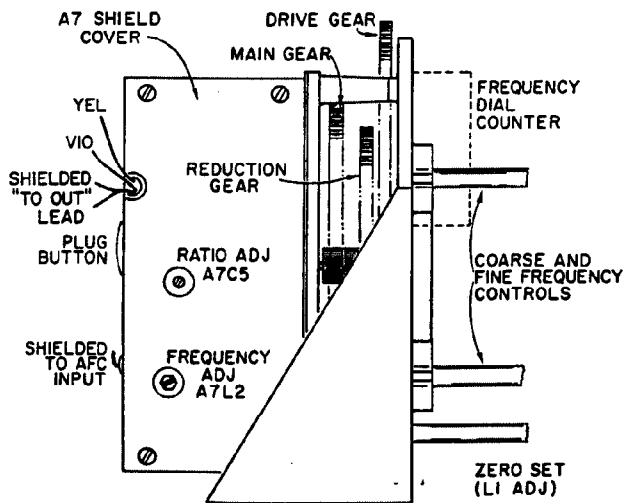

Figure 5-7. Tuning Assembly Adjustment Location
5-36. The pre-installation tuning consists of centering the rotor with respect to the stator, adjusting L1 for the correct range of ZERO SET and aligning the assembly for the correct frequency range. Refer to Figure 5-7 throughout procedure.
- (1) Connect a lead to point labeled YEL.
- (2) Connect a lead to point labeled VIO.
- (3) Connect a short between point labeled TO AFC and point beside this point which is labeled with a ground symbol.
- (4) Connect a shielded two-conductor coaxial cable, one lead to point labeled OUT and one lead to point beside OUT which is labeled with ground symbol.
b. Place A7 shield cover in place with three leads passing through cover as shown in Figure 5-7.
- (1) YEL lead to yellow lead which normally connects to tuning assembly circuit board.
- (2) VIO lead to violet lead which normally connects to circuit board.
- (3) Center conductor of shielded lead to shielded lead from pin 14 of A8.
- (4) Shield of shielded lead to shield of shielded lead from pin 14 of A8.